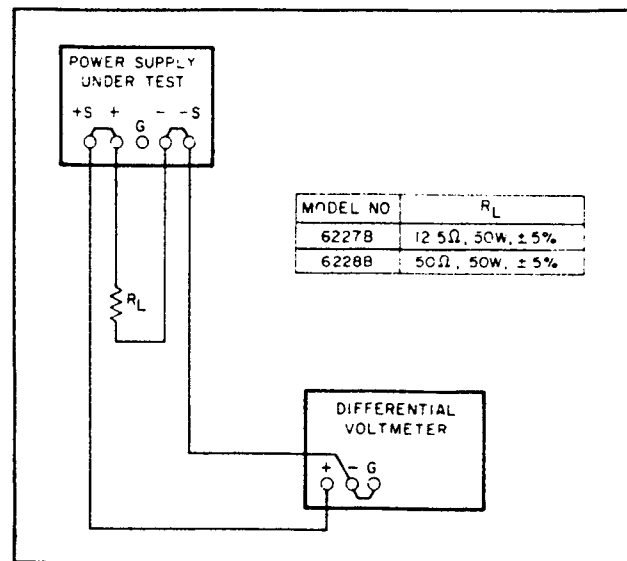

Figure 5-2. Constant Voltage Load Regulation Test Setup
- a. Connect load resistor (R_L) indicated in Figure 5-2 across output terminals of supply.
- a. Connect test setup shown in Figure 5-2.
- Connect load resistance and differential voltmeter as illustrated in Figure 5-2.